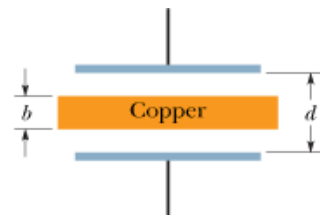

Figure 4
- A slab of copper of thickness  $b = 2.00 \text{ mm}$  is thrust into a parallel-plate capacitor of plate area  $A = 2.40 \text{ cm}^2$  and plate separation  $d = 5.00 \text{ mm}$ , as shown in Fig. 4; the slab is exactly halfway between the plates. (a) What is the capacitance after the slab is introduced? (b) If a charge  $q = 3.40 \mu\text{C}$  is maintained on the plates, what is the ratio of the stored energy before to that after the slab is inserted? (c) How much work is done on the slab as it is inserted? (d) Is the slab sucked in or must it be pushed in?